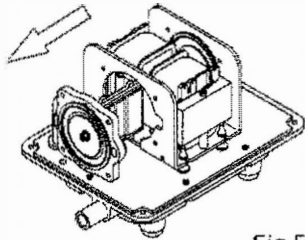
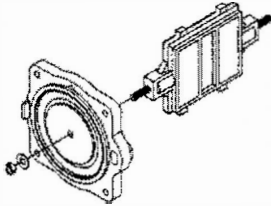

Fig.5
Fig.6
④Loosen the U locknut and washer on one side of diaphragm mounting block and remove the Diaphragm mounting block (refer to fig.5). Pull out the other side of diaphragm mounting block(do not loosen the U locknut and washer). Remove the block from Rod (refer to fig.6).